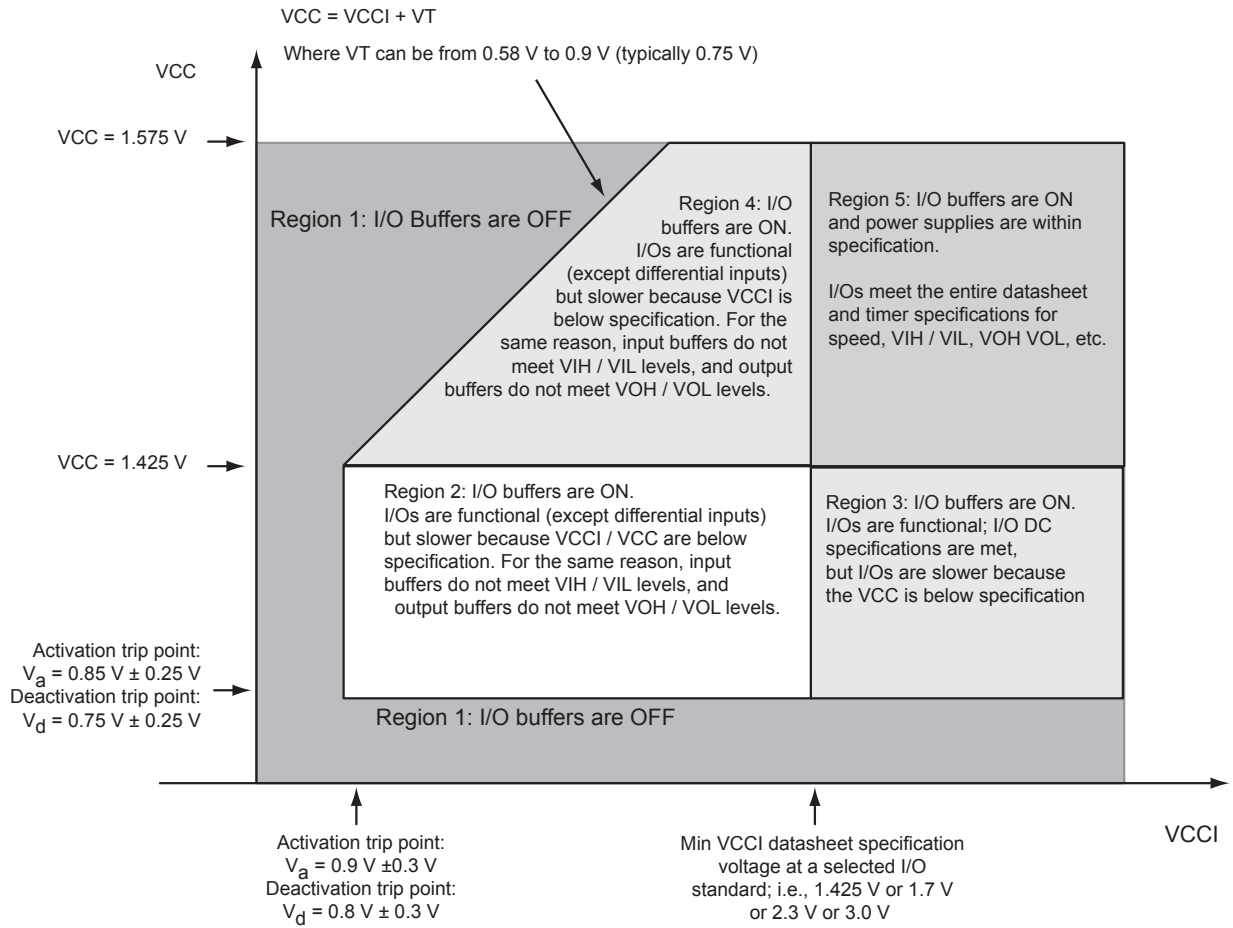

Figure 3-1 • I/O State as a Function of VCCI and VCC Voltage Levels
Sophisticated power-up management circuitry is designed into every Fusion device. These circuits ensure easy transition from the powered off state to the powered up state of the device. The many different supplies can power up in any sequence with minimized current spikes or surges. In addition, the I/O will be in a known state through the power-up sequence. The basic principle is shown in Figure 3-1 on page 3-7.
1. VCC and VCCI are above the minimum specified trip points (Figure 3-1).
Microsemi recommends using monotonic power supplies or voltage regulators to ensure proper power-up behavior. Power ramp-up should be monotonic at least until VCC and VCCPLX exceed brownout activation levels. The VCC activation level is specified as 1.1 V worst-case (see Figure 3-1 on page 3-7 for more details).